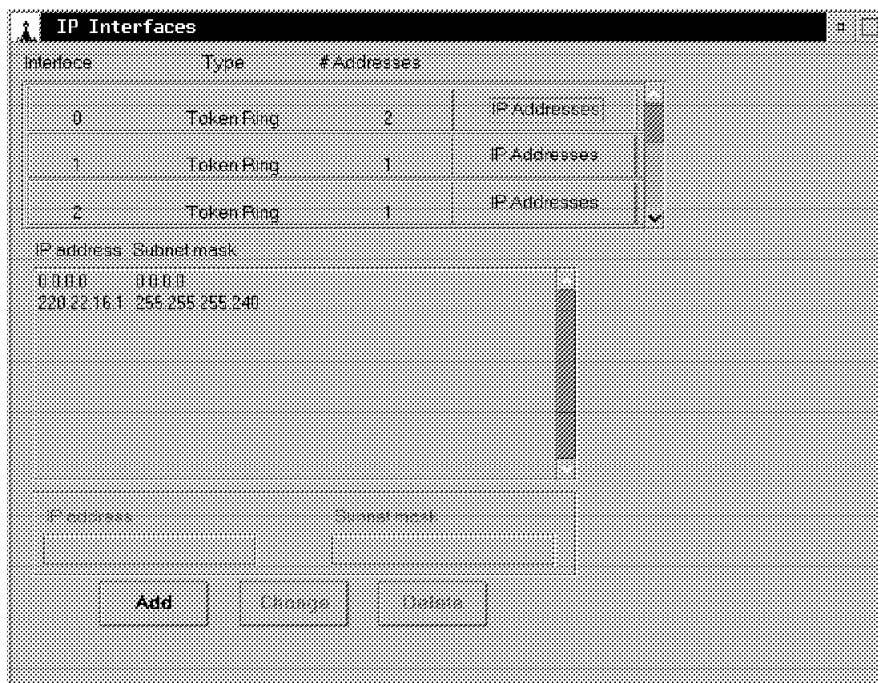

Figure 26-17. Configure IP Address for Interface 0
- The IP address: 220.22.16.1 and subnet mask: 255.255.255.240 for this example, has been set on interface 0, as shown in Figure 26-17.